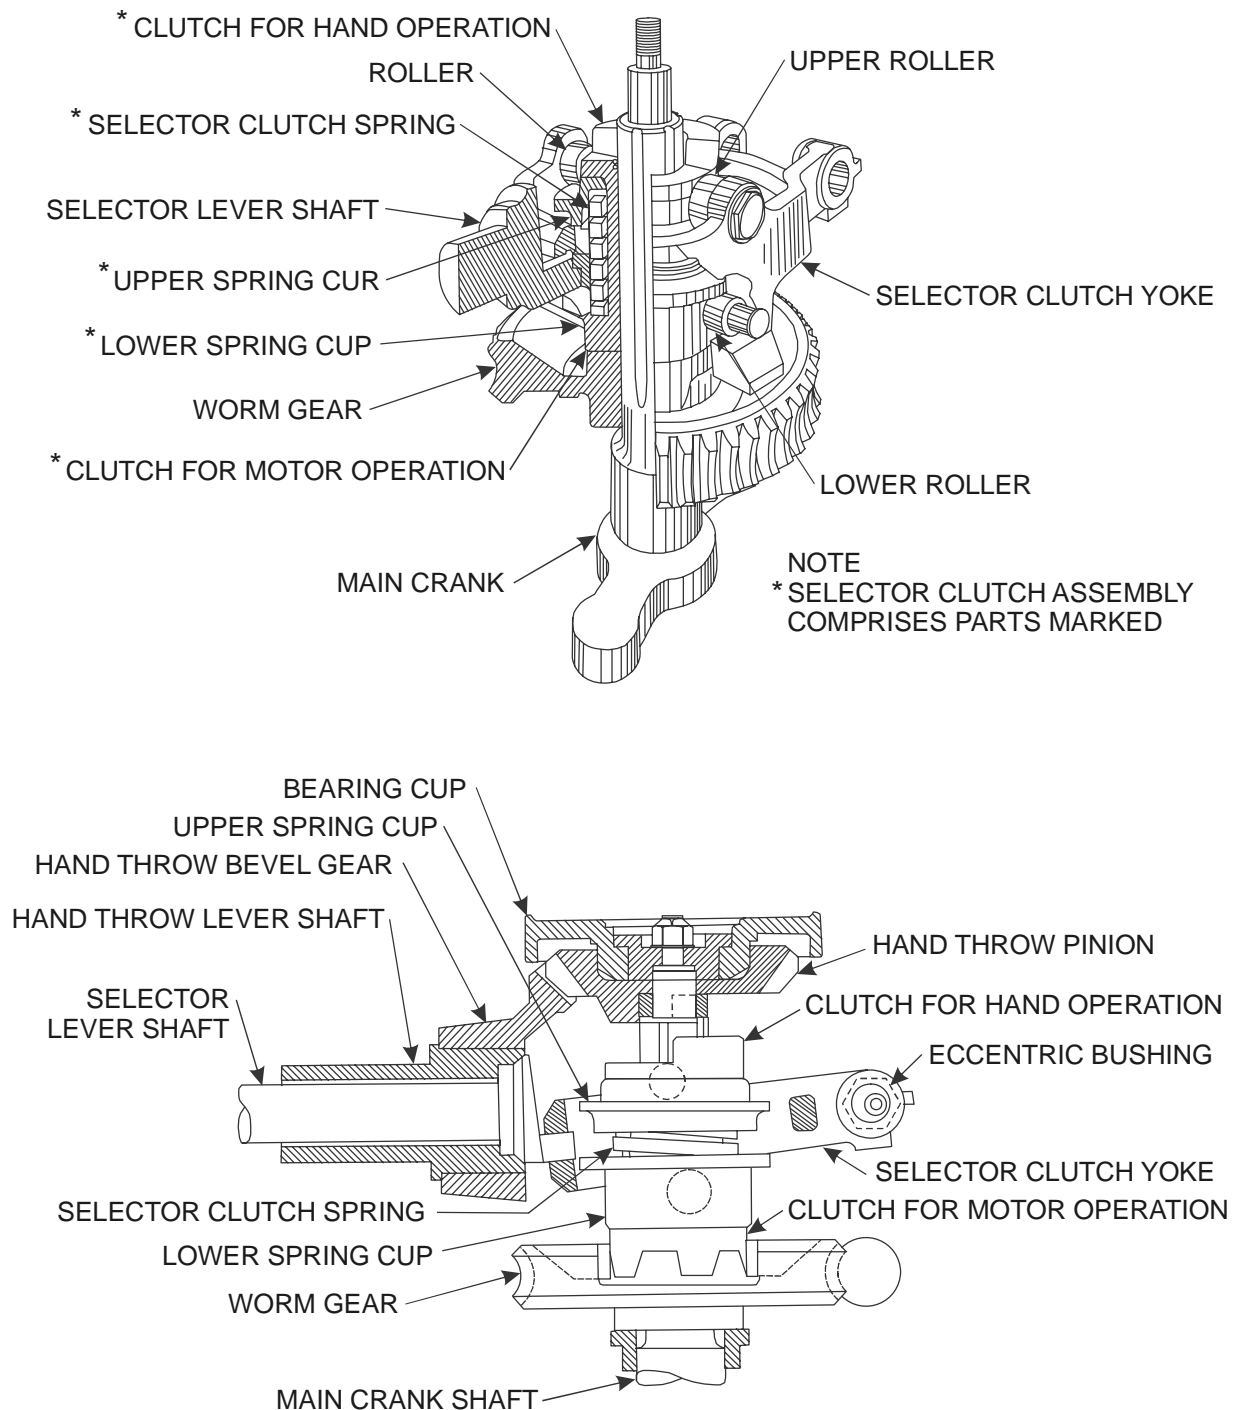

Figure 4-8. Sectional Views of M-23 Dual Control Mechanism
1. Place the selector lever in the Motor position when the worm gear is not in position to receive the selector clutch, so that the teeth of “Clutch for Motor Operation,” (Figure 4-8), ride on top of the corresponding teeth of the worm gear.